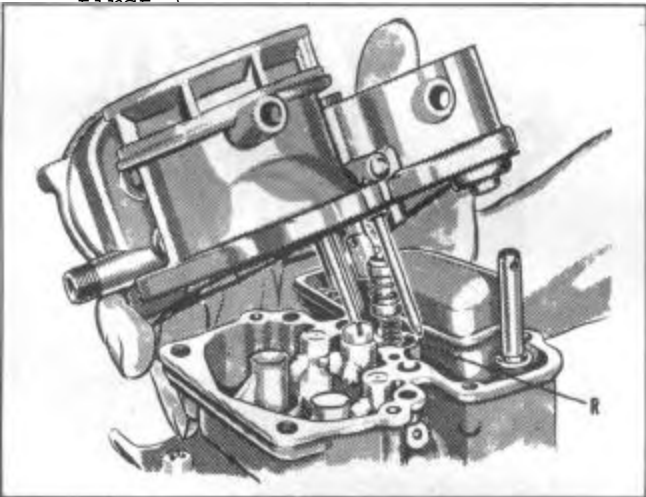

FIGURE 80
16. Install vacuum spring (R), Figure 80, in cylinder and assemble bowl cover on body. (Install bowl cover screws, tightening center screws first.)